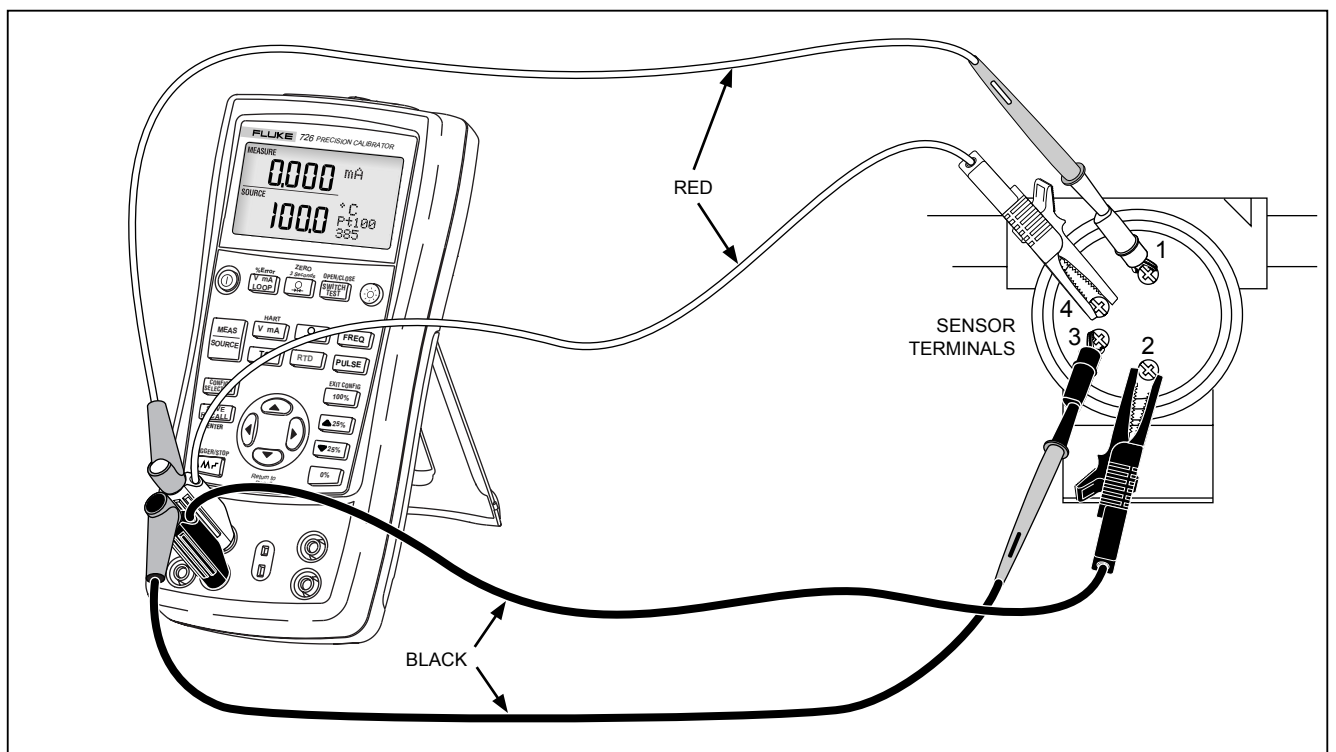

Figure 17. Connections for Simulating 3- and 4-Wire RTD
Connect the Calibrator to the instrument under test as shown in Figure 17. Proceed as follows to simulate an RTD:
*Use the 3W and 4W terminals for measurement only, not for simulation. The Calibrator simulates a 2-wire RTD at its front panel. To connect to a 3-wire or 4-wire transmitter, use the stacking cables to provide the extra wires. See Figure 17.*